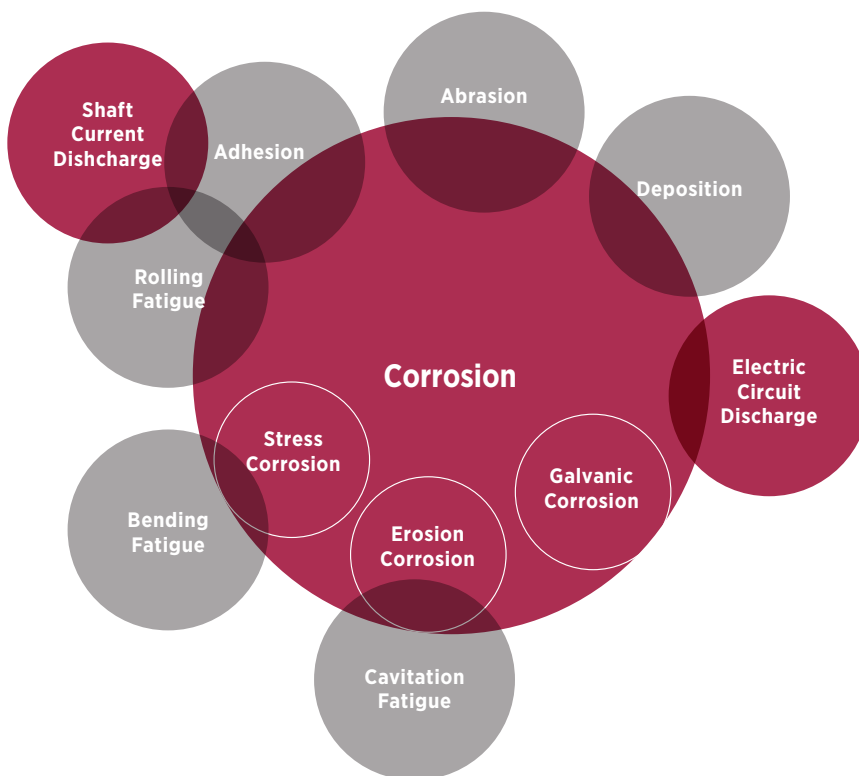

Figure 1.
**Interaction** of corrosion and/or electric discharge mechanisms with the other failure mechanisms described above is synergistic, as portrayed in the Venn diagram in Figure 1.